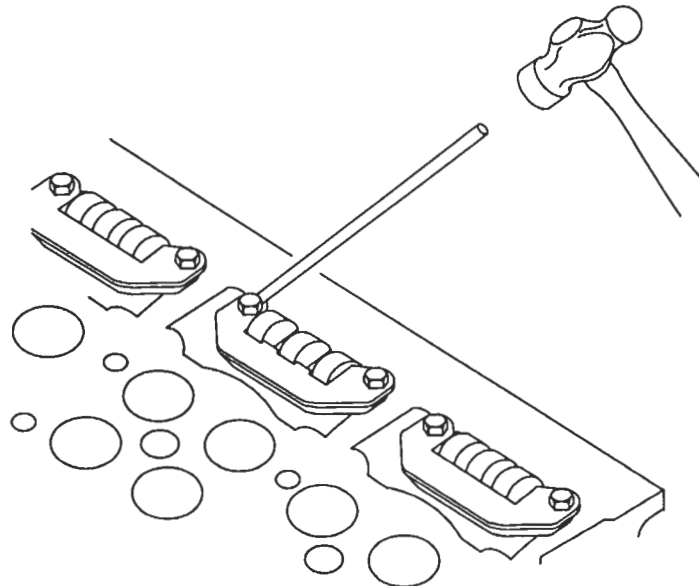

Figure 9. Adjusting Cam Follower Guide
1. Push spring-loaded guide pin (J 33421-12) down and insert fork (J 33421-31) as shown (Fig.9)
6. If there is insufficient clearance, loosen the guide bolts slightly and tap each corner of the guide with a brass rod (Figure 9.) Retighten the bolts to the specified torque.